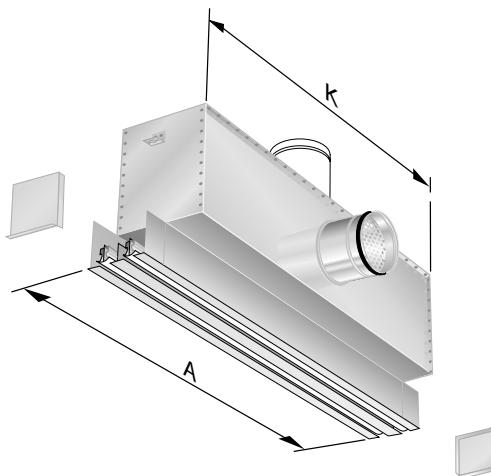

Figure 5. SLA + SLWT, wall-to-wall-mounting
**SLA + SLWT WTW - Figures 5 and 6**